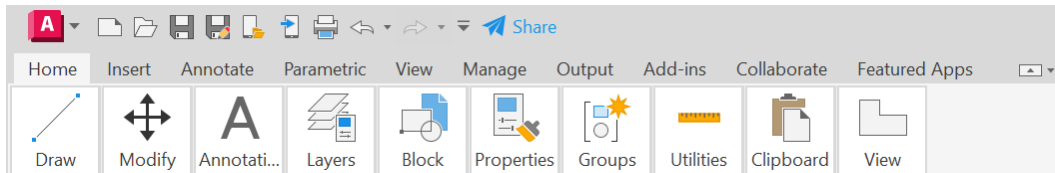

Figure 1.5: The ribbon display using Minimize to Panel Buttons
- Minimize to Panel Buttons (first click):** After the first click of the ribbon settings button, you will set the ribbon to **Panel Buttons**. The ribbon tabs are still available, but each panel on its respective tab will now only display as a button, as shown in *Figure 1.5*.